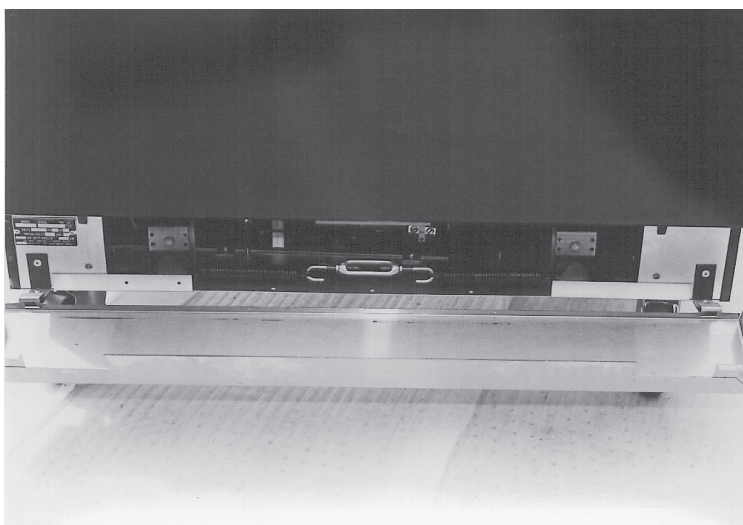

Fig. 37
3. Lower the kick panel. (Fig. 37)